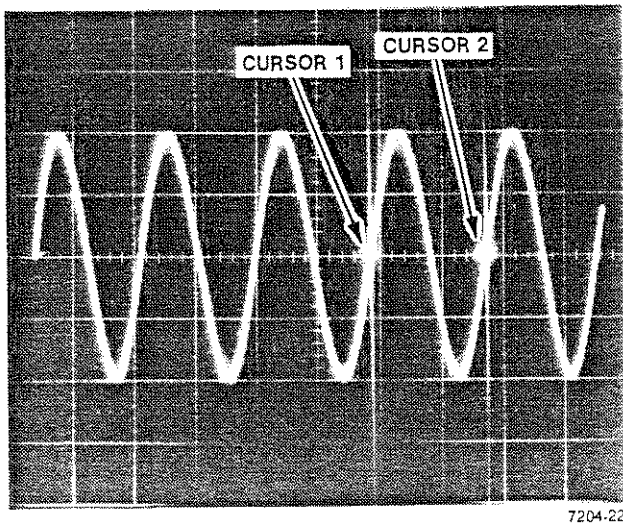

Fig. 3-53. Frequency measurement with CURSOR 1 and 2.
6. Press the CURSOR 2 key until its indicator is off, which removes Cursor 2 from the screen. Next, press the CURSOR 1 key until the CH1 DISPLAY indicator is on. Then use the Parameter Entry Knob to move CURSOR 1 as close to the midpoint of the waveform leading edge as possible while watching the voltage display. Next press the CURSOR 2 key until the CH1 DISPLAY indicator is on, then move CURSOR 2 to the middle of the leading edge of the next cycle. Adjust the cursors until the difference in their relative voltages is minimum. If 1/T/1/ Δ T is pressed at this point, a measurement of the frequency of one cycle of waveform between CURSOR 1 and CURSOR 2 can be made (Fig. 3-53).